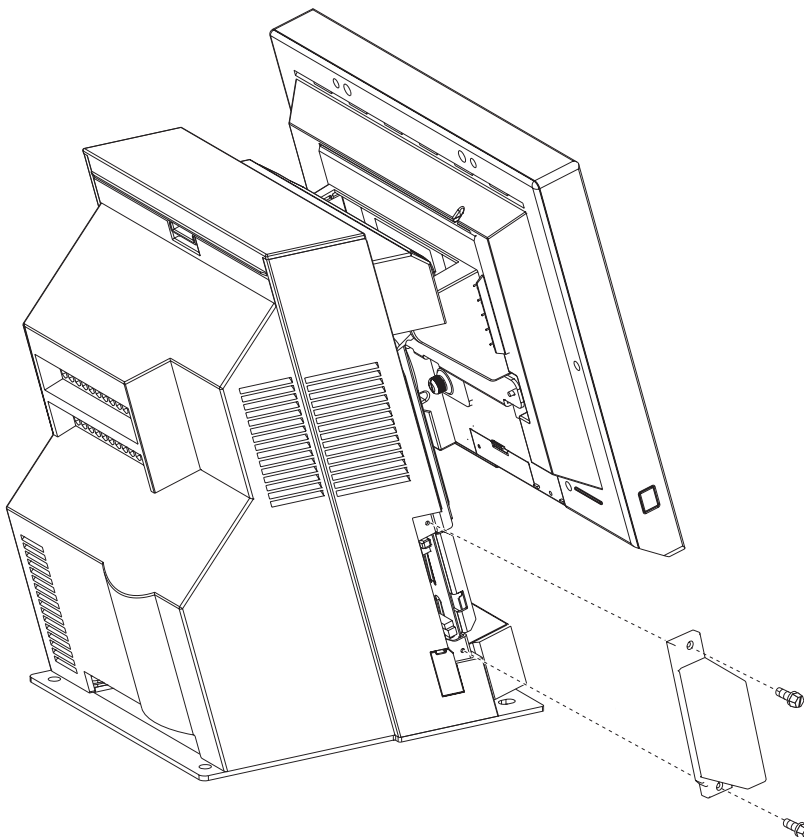

Figure 35. Removing a PC card adapter
4. If a wireless LAN antenna cover is present, remove the two screws, as shown in Figure 35 on page 62.